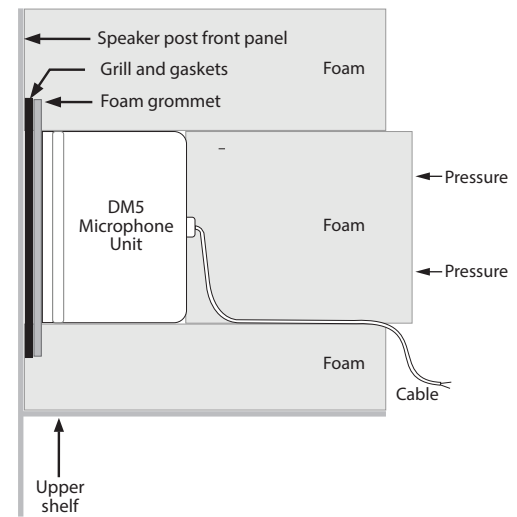

Figure 6.
3. Install the microphone above the upper shelf of the Speaker Post in the position shown in Figure 6 as follows:
4. Install the speaker above the lower shelf of the Speaker Post in the position shown in Figure 6 as follows: